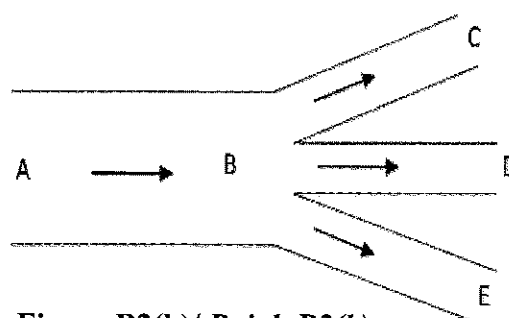

Figure B2(b)/ Rajah B2(b)
- (b) Water flows at a rate of 15liters/s in a 100mm diameter pipe. Pipe AB branches into three pipes at its end which are pipes BC, BD and BE as shown in **Figure B2(b)**. The diameters of BD and BC are 25mm and BE is 50mm. The flowrate in pipe BC is three times than pipe BE. The velocity in pipe BD is 4m/s. Calculate the velocity in pipe BC and BE.